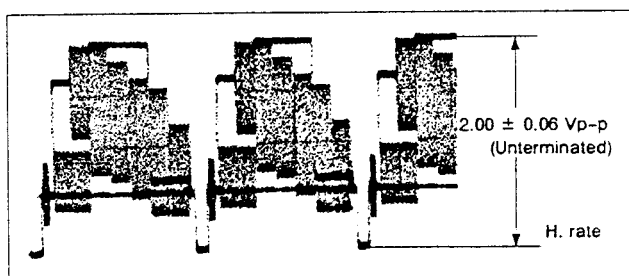

Fig. 3-1-8 EE Y level
- 3) If necessary, replace R42 with the variable chip resistor 4822 101 10889 and adjust it for 2.00 ± 0.06 Vp-p, as in Fig. 3-1-8.